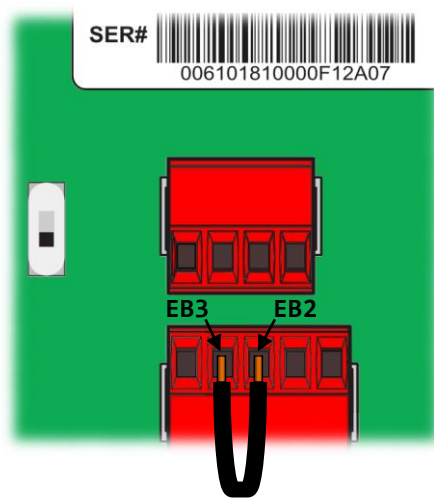

Figure 18: Cable Bridge EB2-EB3
2. Install a cable bridge between EB2 and EB3 as shown in Figure 18 below.